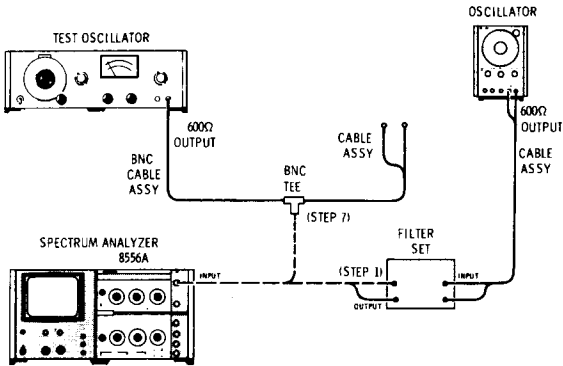

Figure 4-7. Spurious Responses Test Setup
- Connect Oscillator through Filter Set to analyzer INPUT as shown in Figure 4-7.